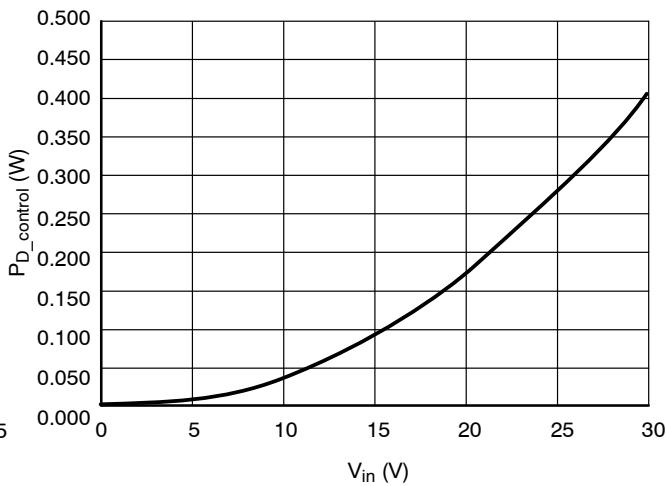

Figure 4. Internal Circuit Power Dissipation vs. Input Voltage
7. Establish Power Dissipation on the NUD4001 device's control circuit per Figure 4:
- a. $P_{D_control} = \text{Figure 4, for } 12 \text{ V input voltage}$